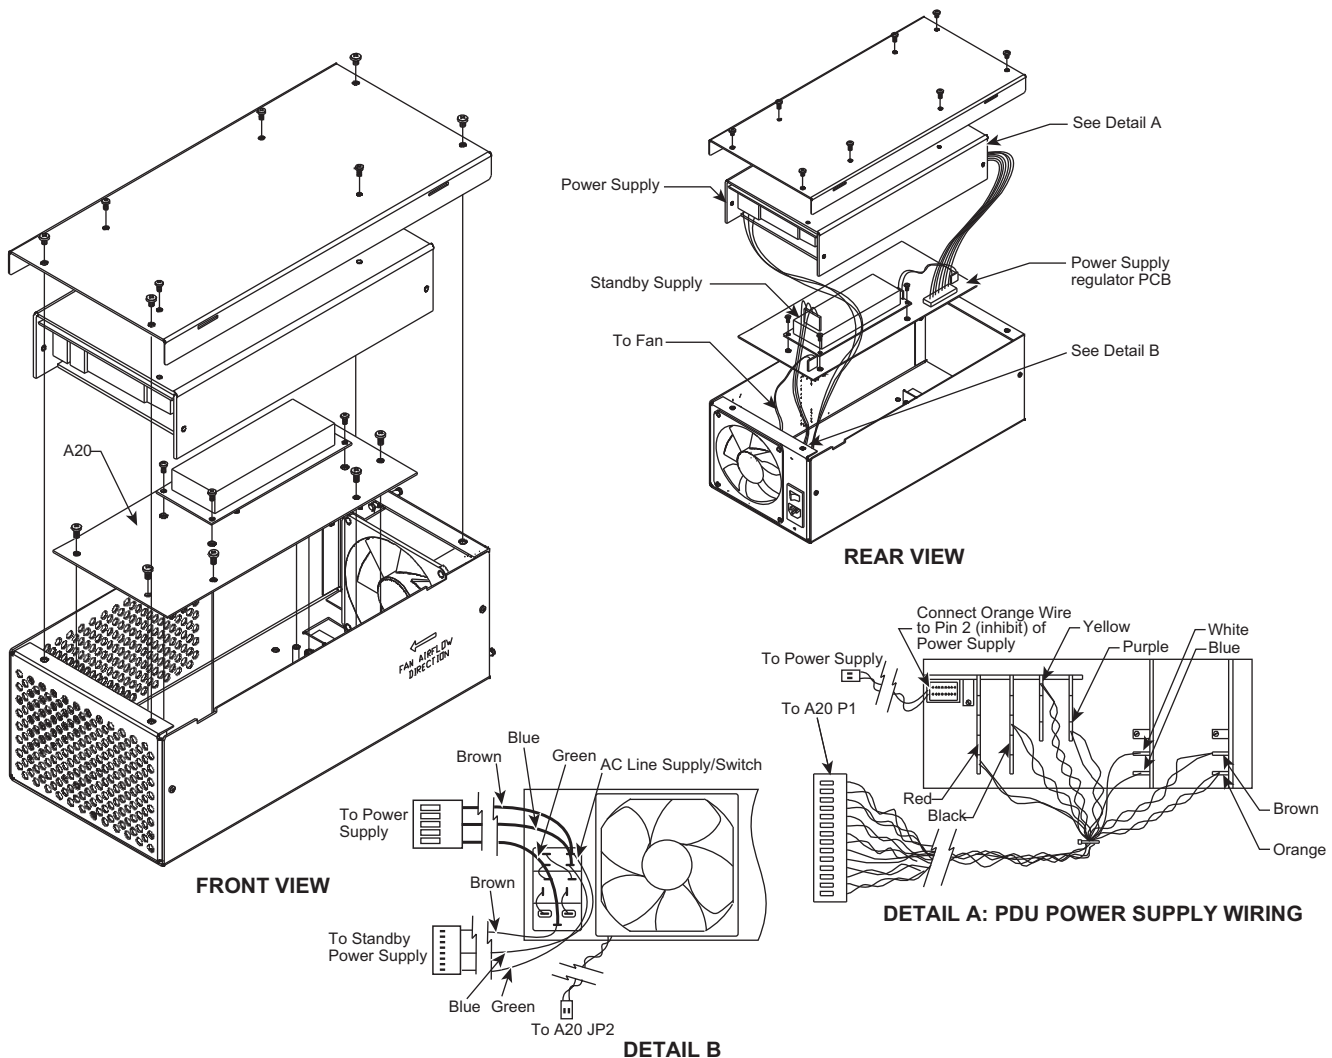

Figure 6-12. Power Supply Assembly
4. Use a Phillips screw driver to remove the four screws that secure the top subassembly (cover and PDU power supply unit) of the power supply assembly. Refer to Figure 6-12 on the following page.
5. Carefully lift the top subassembly off the power supply assembly. Hold the top subassembly securely. Disconnect the power input cable at connector J1 located to the rear of the PDU power supply unit. See Figure 6-12.